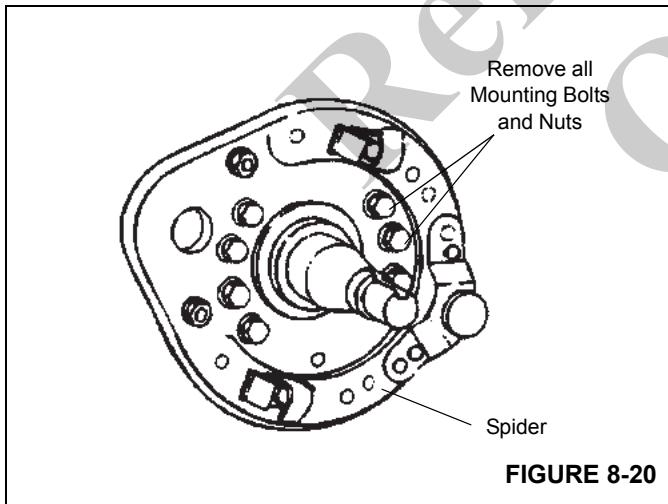

FIGURE 8-20
17. Remove spider-to-axle attaching nuts and bolts and remove the spider (see Figure 8-20).